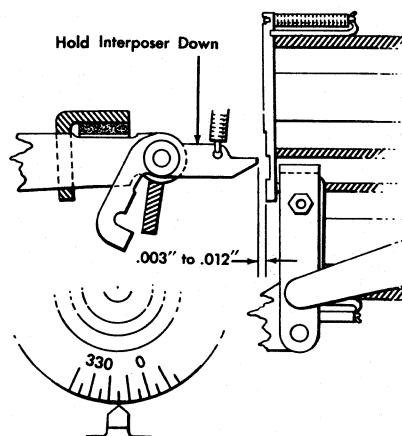

Figure 57. Interposer Unlatching Clearance
2. Shift interposer magnet unit to obtain unlatching clearance of .003-inch to .012-inch measured between tip of each interposer and its attracted armature (Figure 57). **NOTE:** The optimum setting for unlatching clearance within the stated limits depends to a large degree on operating voltage. Where the machine must operate much of the time at low voltage, a tendency toward minimum unlatching clearance will afford a greater safety factor. A typical malfunction due to low voltage is failure to trip an interposer while successively verifying a digit. The odd interposer positions normally fail first.